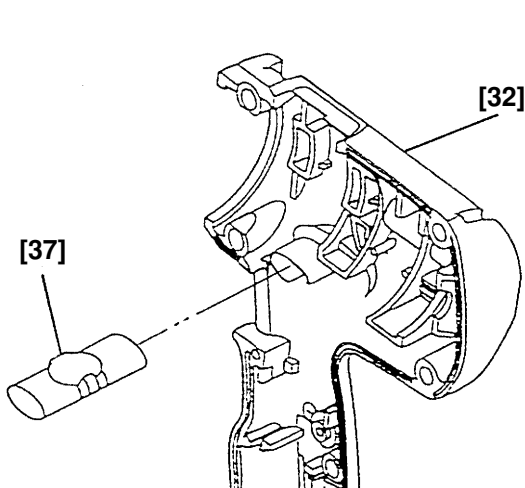

Fig. 15
(5) Installation of the assembly reassembled in step (3) into Housing (A). (B) Set [32]
(a) Install the Pushing Button [37] into Housing (B). (See Fig. 15.)